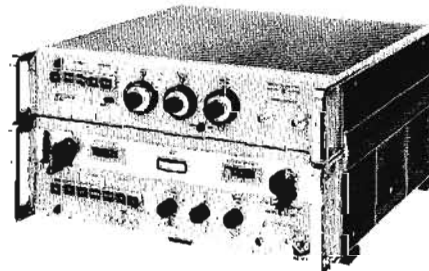

Figure 7. Joining brackets effectively weld instruments into a single physical unit.
**Joining brackets (see Figure 7)**